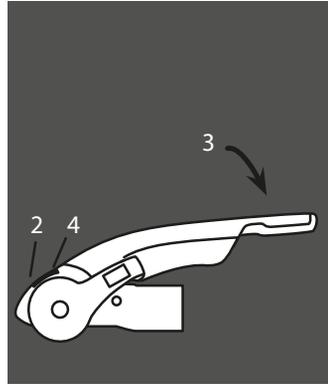
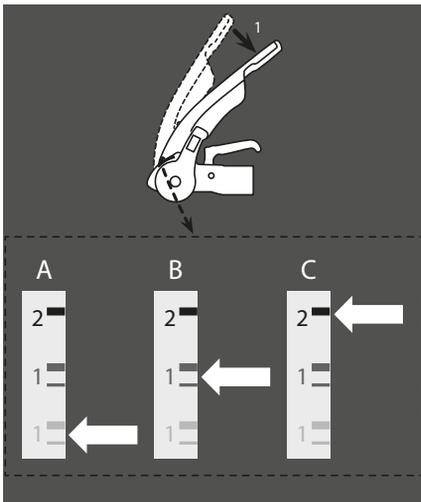

Figure 9 - Correct engagement with towball
Figure 13 - Checking left / right friction pads
**WARNING:** The coupling is correctly engaged when the green edge of the safety indicator button is visible (Fig 9/Item 2).
To operate the stabiliser (once coupled to the towball), simply press the stabiliser lever down as far as it will go (Fig 9/Item 3).
To ensure the stabiliser is correctly coupled, check the arrowhead lines up with the black line marked 2 (Fig 9 /Item 4 and Fig 13/C).
2. Push the stabiliser lever (Fig 13 - Item 1) down until resistance is felt (i.e. The friction pads are in contact with the ball but not yet under pressure).
3. Check the position of the arrowhead on the arm of the stabiliser. If it lines up with the two green lines then the friction pads are still as new (Fig 13 - A).
4. If the arrowhead lines up with the two red lines then the friction pads are worn and should be replaced immediately (Fig 13 - B).
Note: When the stabiliser lever is correctly applied, the arrowhead should line up with the black line marked 2 (Fig 13 - C).